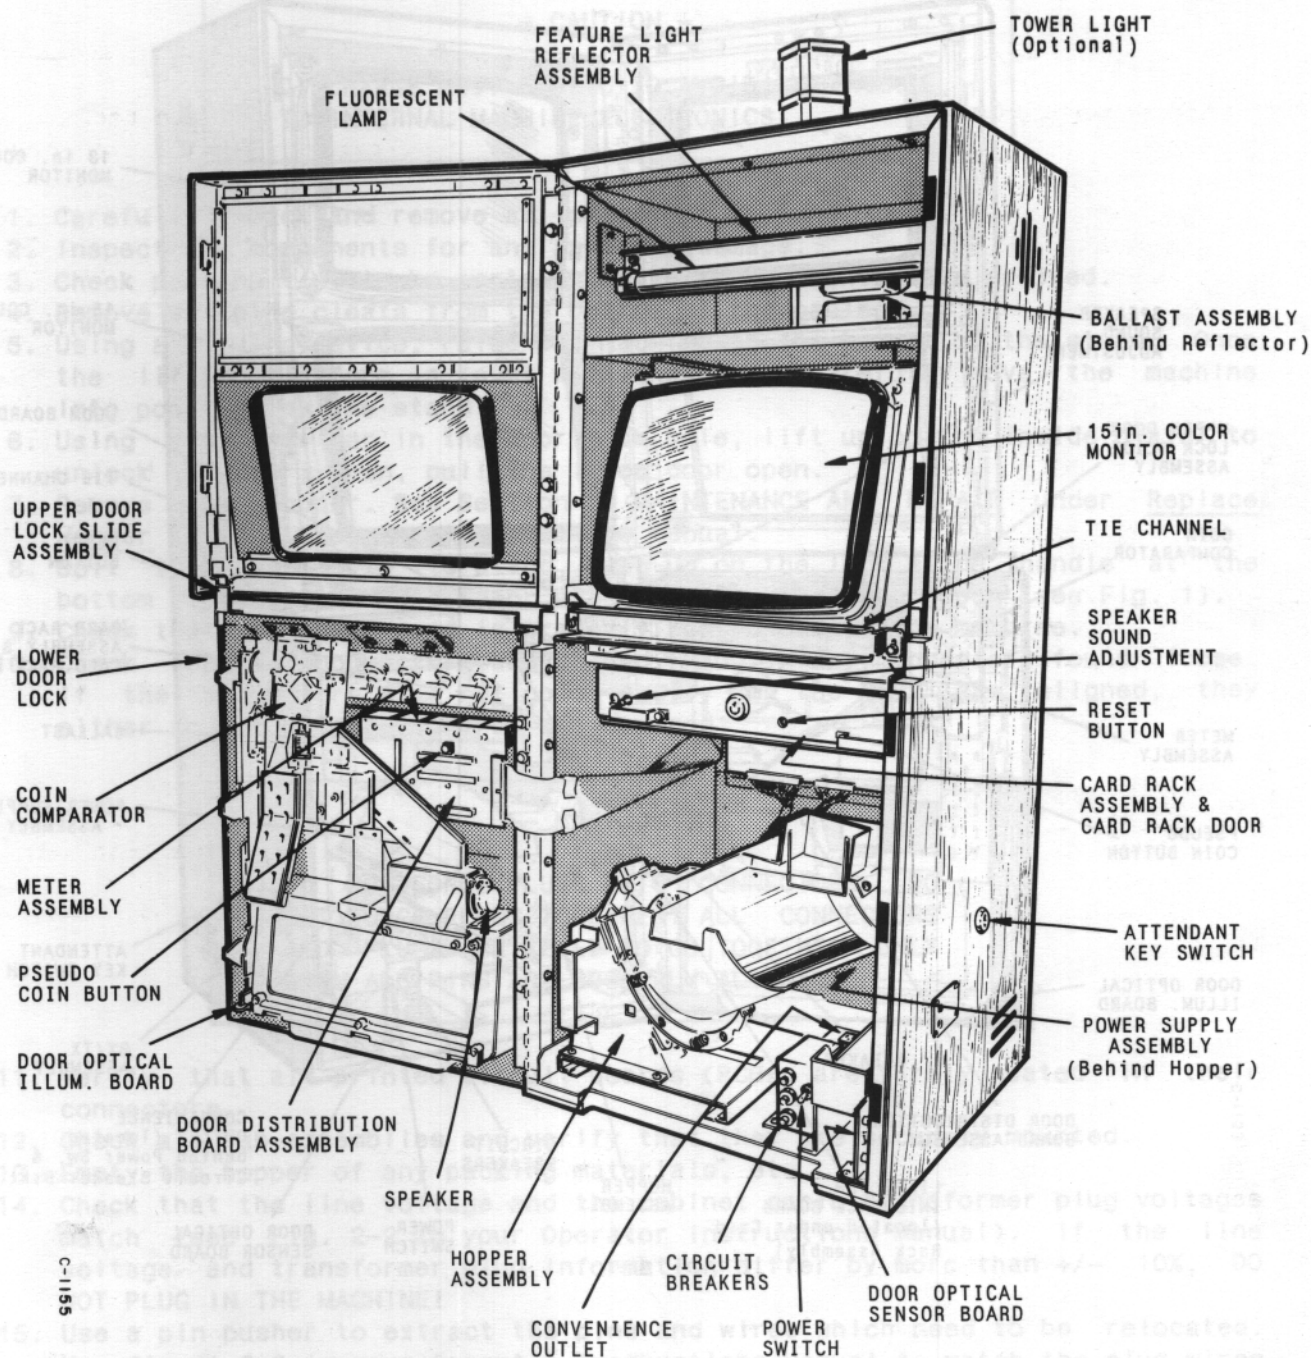

Fig. 1
8. Bolt the machine to its stand. Push up on the lock slide handle at the bottom right of the upper door and pull the upper door open (see Fig. 1).